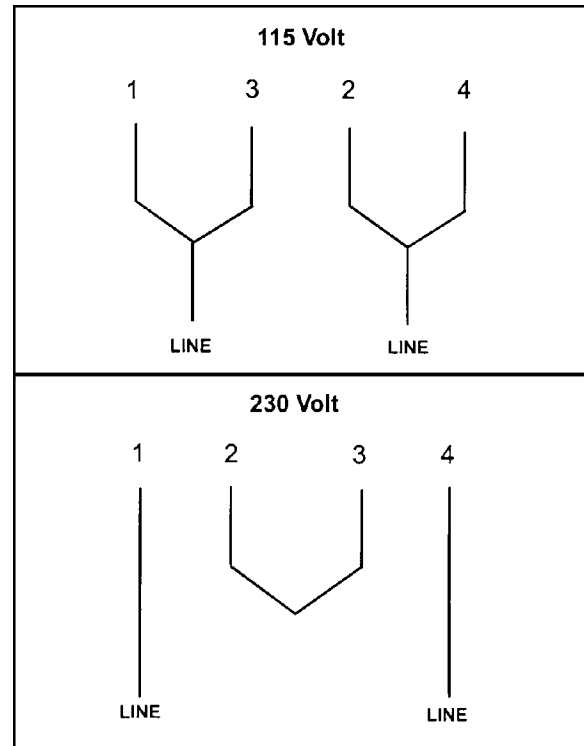

Figure 23
2. This band saw is supplied with four motor leads that are connected for 115V operation, as shown in Figure 23. Reconnect these four motor leads for 230V operation, as shown in Figure 23.